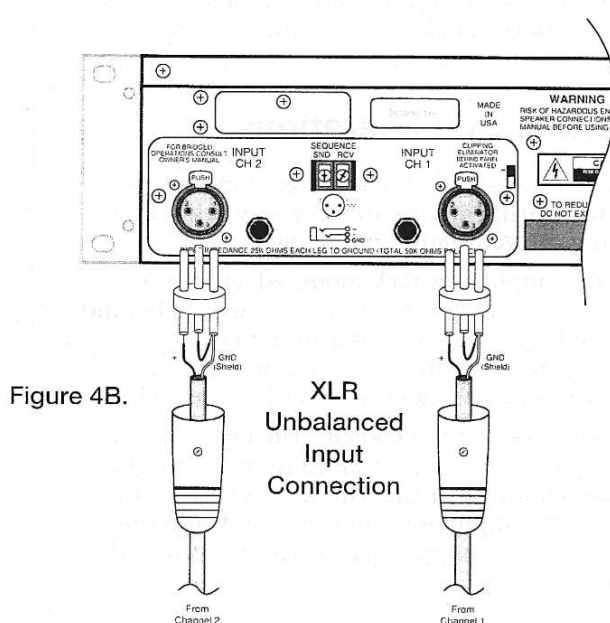

Figure 4B.
**XLR:** Pin 2 carries the "+" (hot, non-inverting) side of the signal, and Pin 1 is ground. Short Pin 3 to Pin 1 in order to reference the input differential amplifier for the correct gain (see Figure 4B).